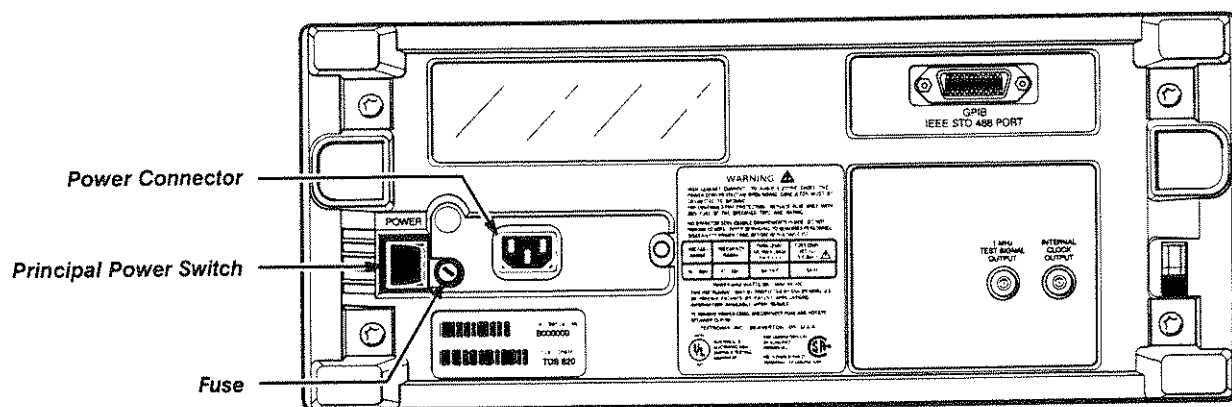

Figure 1-1: Rear Panel Controls Used in Start Up
3. Check the fuse to be sure it is the proper type and rating (Figure 1-1). You can use either of two fuses. Each fuse requires its own cap (see Table 1-1). The digitizing oscilloscope is shipped with the UL approved fuse installed.
5. Connect the proper power cord from the rear-panel power connector (Figure 1-1) to the power system.
1. Check that the rear-panel principal power switch is on (Figure 1-1). The principal power switch controls all AC power to the instrument.